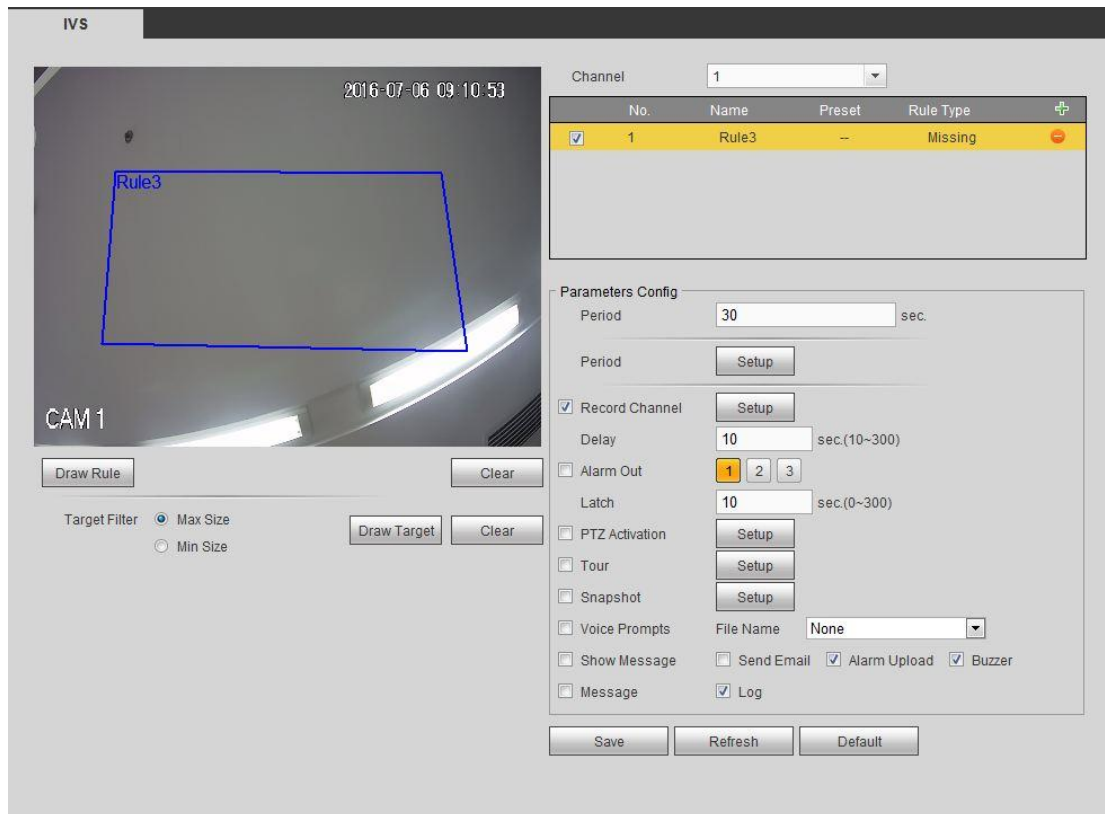

Figure 4-80
Step 3 Click Draw rule button and then left click mouse to draw a zone. Right click mouse to complete. See Figure 4-80.